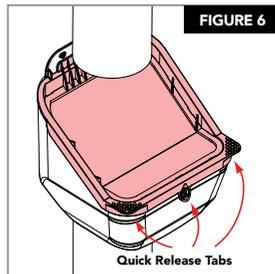

FIGURE 6
STEP 5 Insert the Cleanshield™ screen into the Leaf Eater Advanced™. Ensure the Cleanshield™ screen is sitting firmly in place and check installation is secure. (FIGURE 6)
STEP 6 Insert the Cleanshield™ screen into the Leaf Eater Advanced™. Ensure the Cleanshield™ screen is sitting firmly in place and check installation is secure. (FIGURE 6)